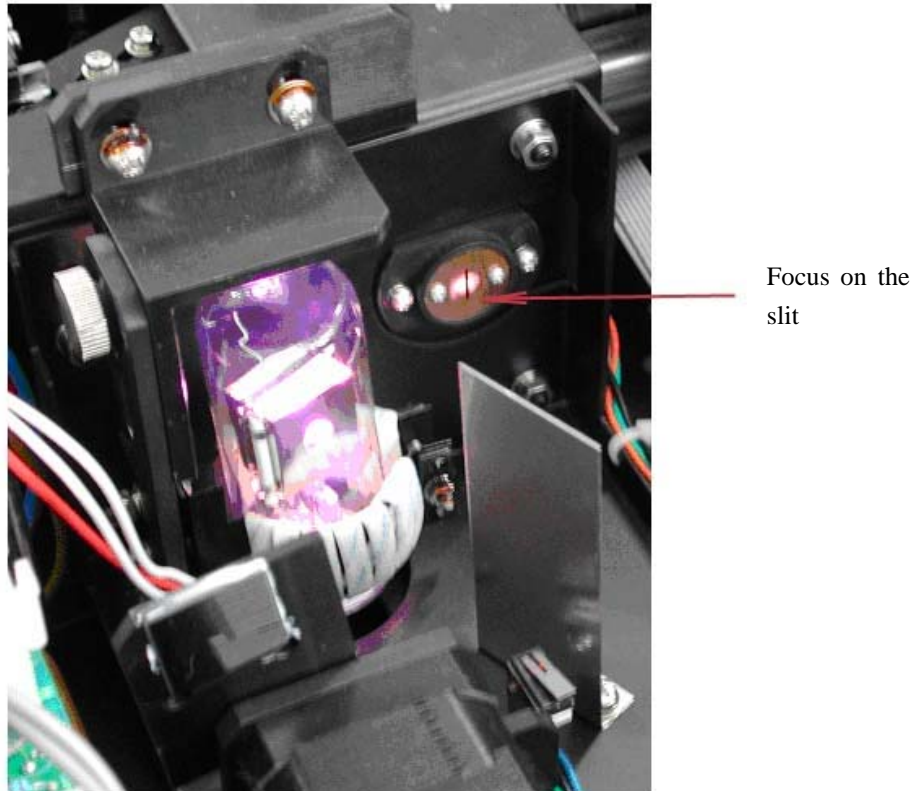

Figure 7.9 Adjust Deuterium Lamp
6. Switch on and remove the grommet from the middle of the rear panel. You can now look through the Viewing Hole and view the image of the lamp on the slit. Check the lamp alignment Figure 7.9. If the image is not covering the slit, the lamp alignment needs adjustment. This requires running the SQ series without the covers, with high voltages accessible, and so should only be performed by a suitably qualified engineer.
If adjustment is required, remove the cover and grey protection cover, put on UV protection glasses and turn on the instrument. Adjust to make the image central on the slit, Figure 7.9.